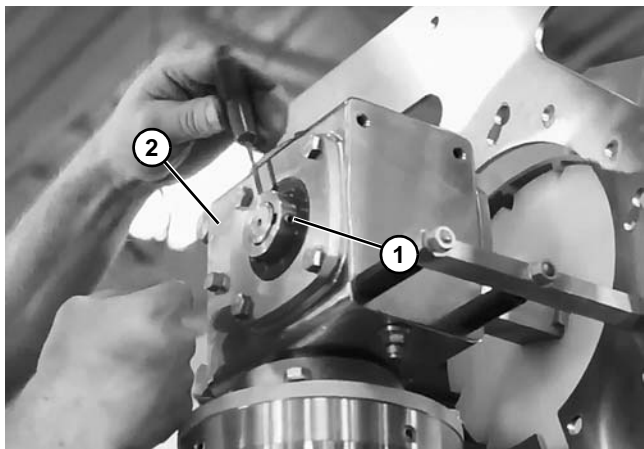

**Figure 66**
18. Lower the belt (**Figure 66, item 1**) until it is resting on the end pulley (**Figure 66, item 2**).
19. Remove the support strap (**Figure 66, item 3**) from the lift and then from the belt.